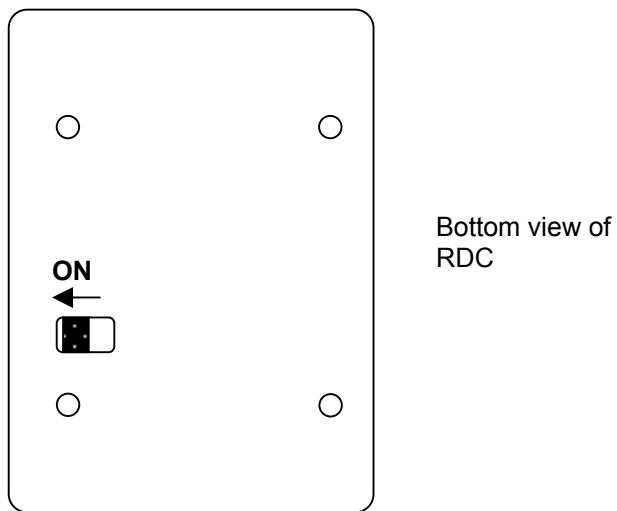

Figure 3
C) Turn on power switch located on bottom side of RDC modules as shown below. Refer to Figure 3.